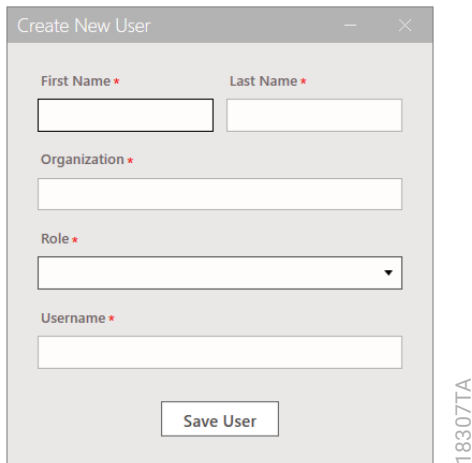

Figure 8. The 'Create New User' window. Fields with a red asterisk are required.
1. To create a new user account, log in as the Admin user, and select the **Create New User** button at the bottom center of the Users screen to display the 'Create New User' window (Figure 8).